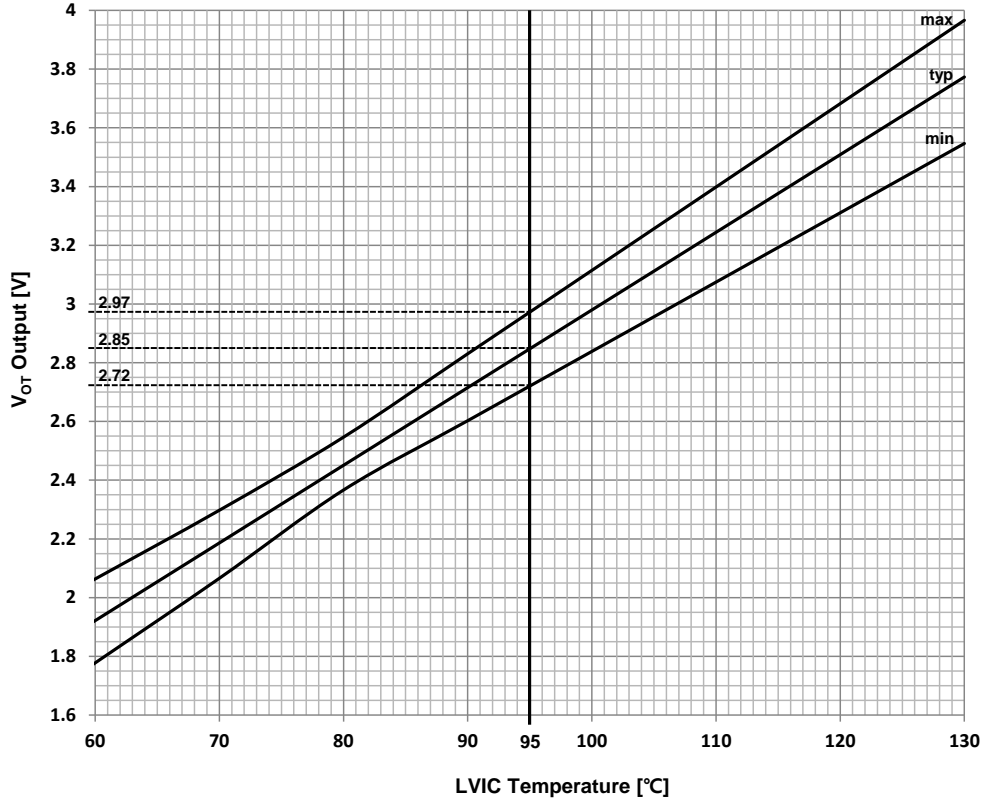

Figure 2. Temperature of LVIC vs. VOT Output Characteristics
- When temperature exceeds the protective level that the user defined, the controller (MCU) should stop the IPM. Temperature of LVIC vs. V_{OT} output characteristics is described in Figure 2.